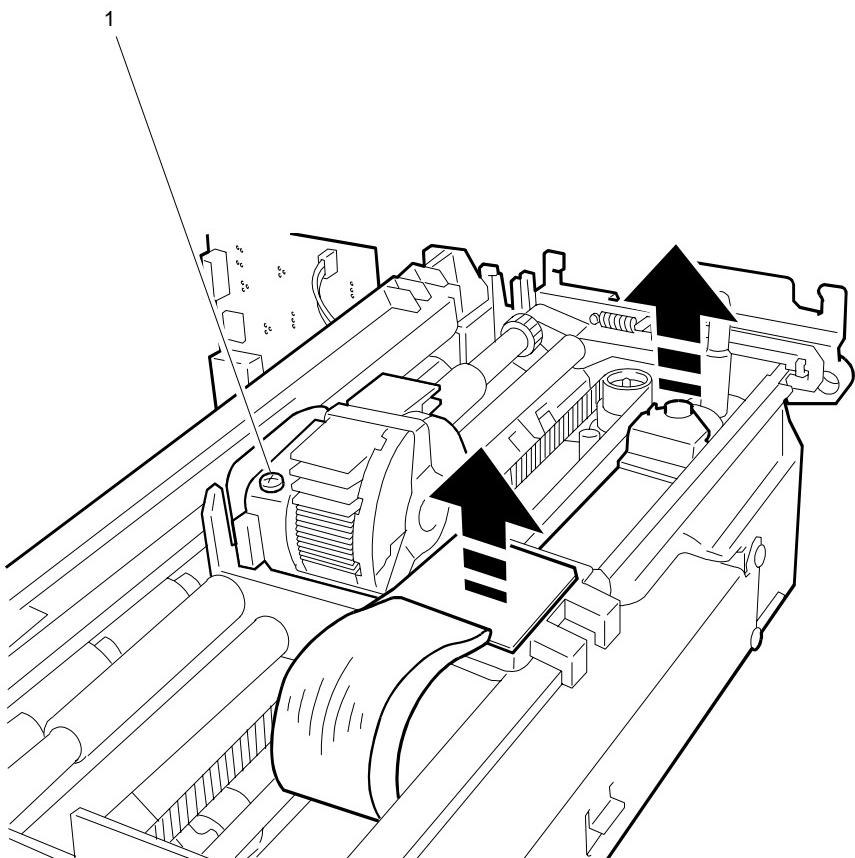

Figure 5-13
- Remove the two boards to which the power supply flat cable is connected as shown in Figure 5-13.
- Remove the flat cable guide board upwards (Fig.5-12), after having removed the bracket. Remove the exchanger using a pair of pliers (Fig.5-13).